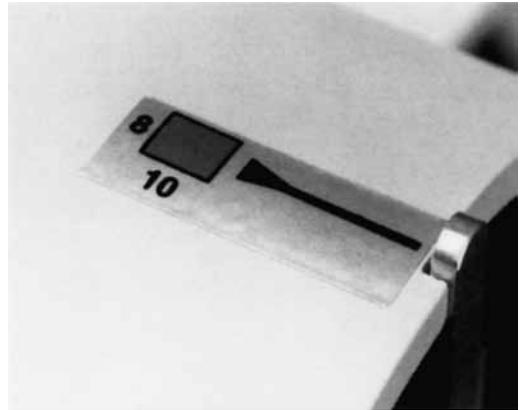

Figure 37
**2. Fixator/Collimator.** To change the format of the fixator/collimator, simply rotate the housing until the housing lever corresponds to the desired setting as marked on the unit (Figure 37).